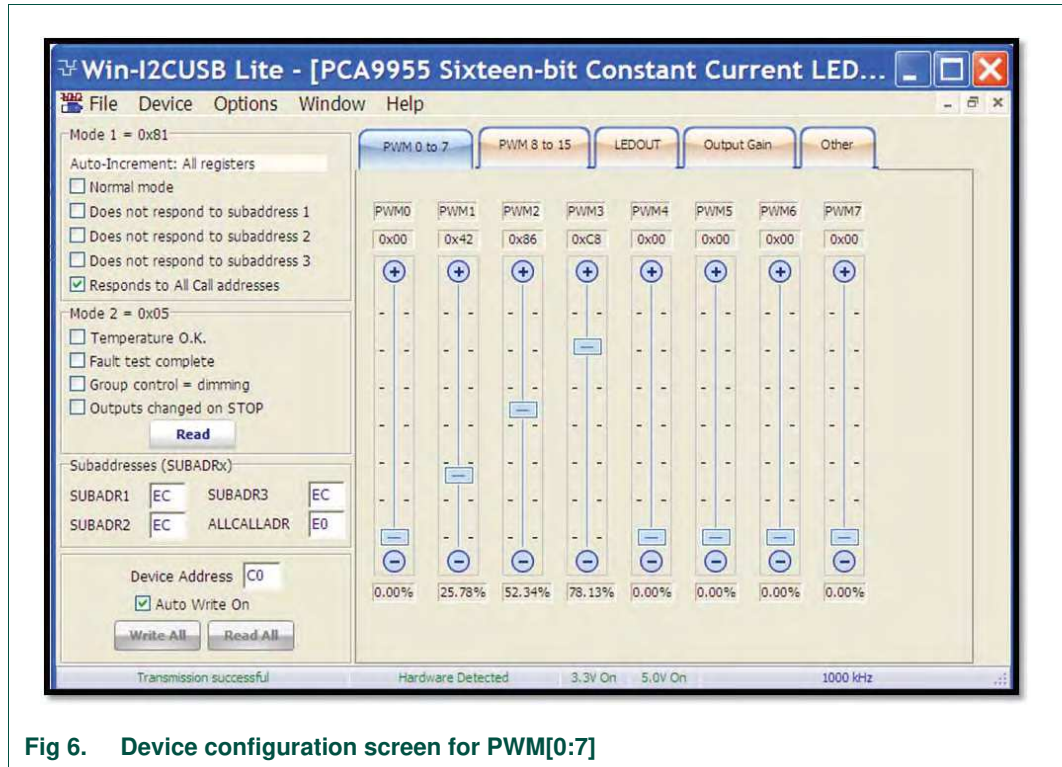

Fig 6. Device configuration screen for PWM[0:7]
- 'PWM 0 to 7' individual brightness control for LED0 to LED7 as shown in Figure 6.
- 6. Click the 'PWM 0 to 7' configuration screen and move the PWM1 (red) PWM2 (green) PWM3 (blue) bars for color mixing (see Figure 6).